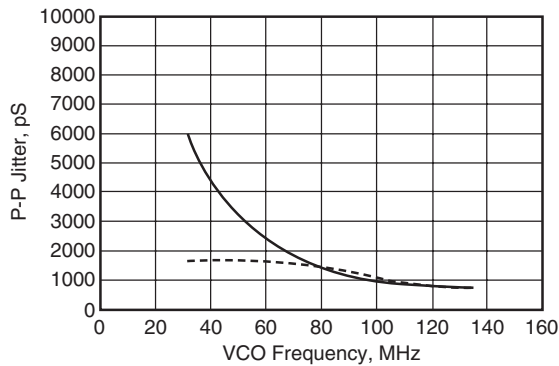

Figure 21. Pixel Clock Peak-to-Peak Jitter
- In Figures 21–23, the dashed curve is with subdivide ratio = 2.